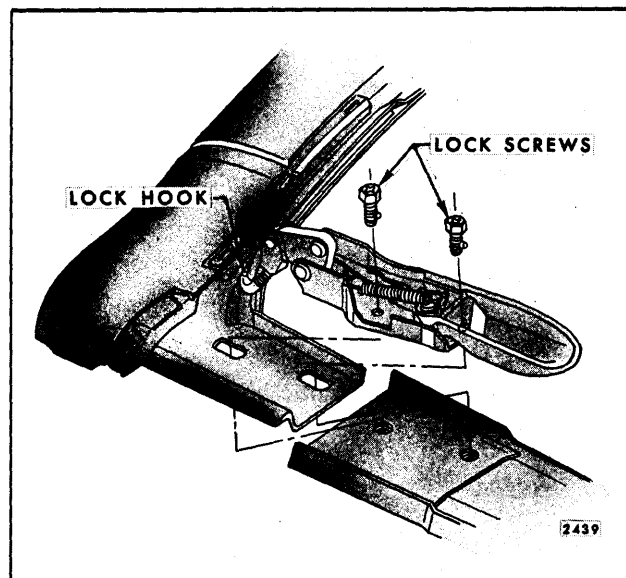

Fig. 13-80—Front Roof Rail and Lock Attachment
2. Loosen side roof rail lock attaching screws and adjust front roof rail fore or aft as required (Fig. 13-80).
1. Lower top to half-lowered position, remove lock attaching screws; and remove lock assembly from front roof rail (Fig. 13-80).
2. To reduce or decrease locking action, turn lock hook counterclockwise (Fig. 13-80).